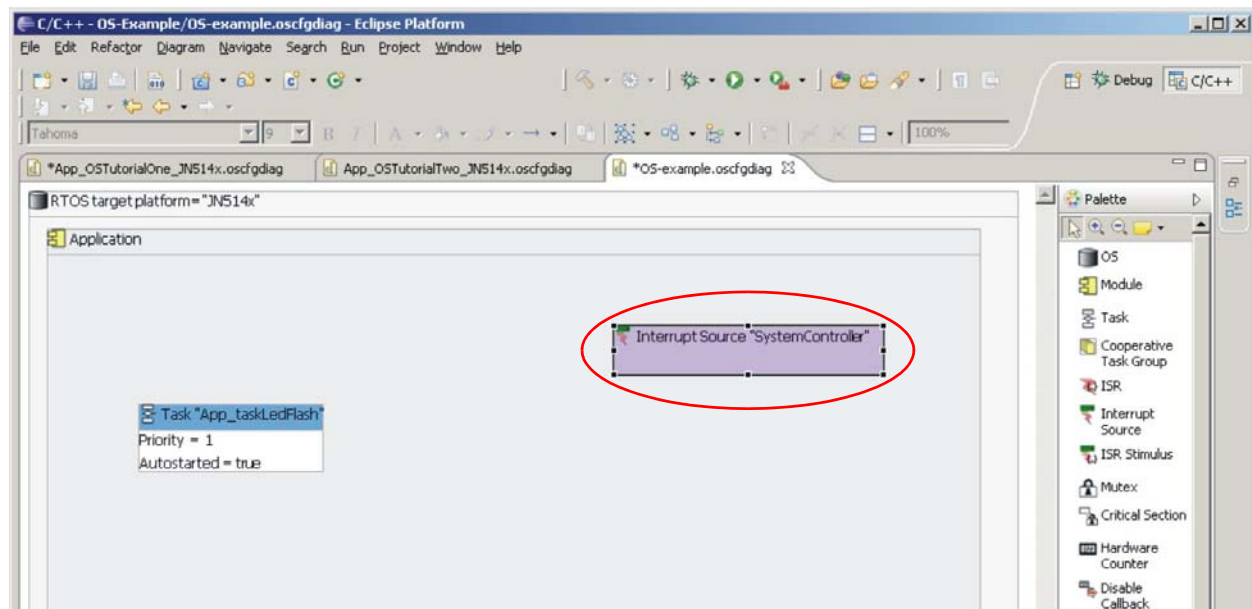

Figure 13: 'Interrupt Source' Element
Step 3 Place an interrupt source element on the diagram, as shown in Figure 13 below.